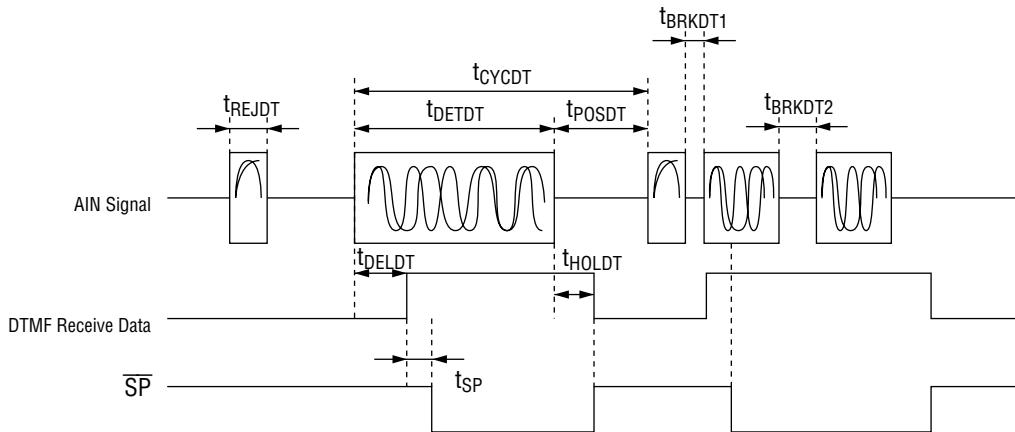

Figure 3 Timing When DTMF is Received
*1 See the figure 3 for timing.